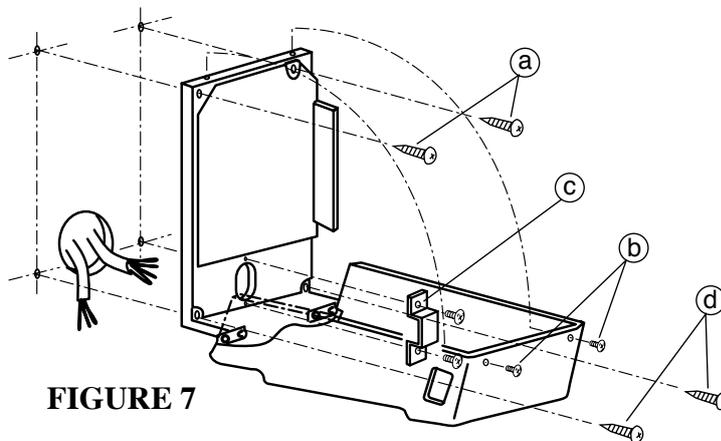

FIGURE 7
A. CONTROL BOX - MOUNTING (FIGURE 7):